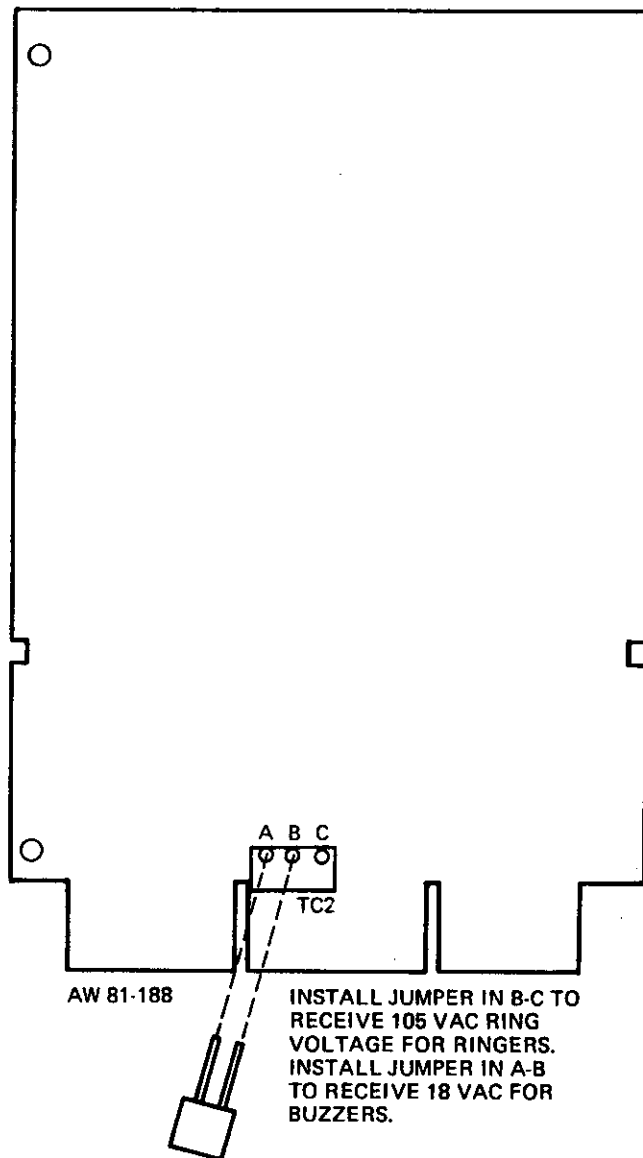

Figure 6: Interrupter Card
4.14 Refer to Figure 6 and strap the interrupter card for 18 VAC or 105 VAC signaling. Insert the interrupter card (component side up) into the card position immediately beneath the power supply. Remember that the power cord must be unplugged whenever static sensitive cards, such as the interrupter card, are installed or removed. Also, cards should be handled only by the edges.